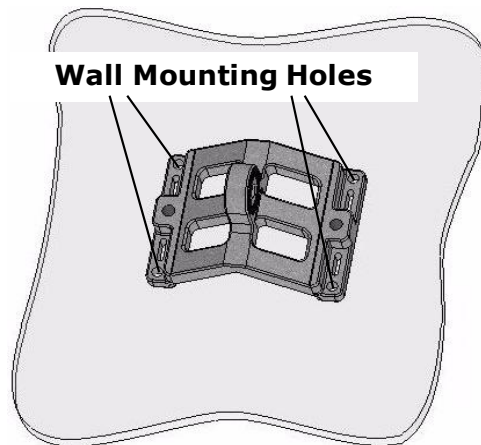

Figure 3: Bracket Wall Mounting
- a) Fasten the wall/pole bracket [A] to the wall using four 3/16" (5mm) bolts, as shown in Figure 3. Use the appropriate bolts and fasteners, which is dependent on the material of the wall. Wall-mounting bolts and fasteners are not supplied with the mounting kit.